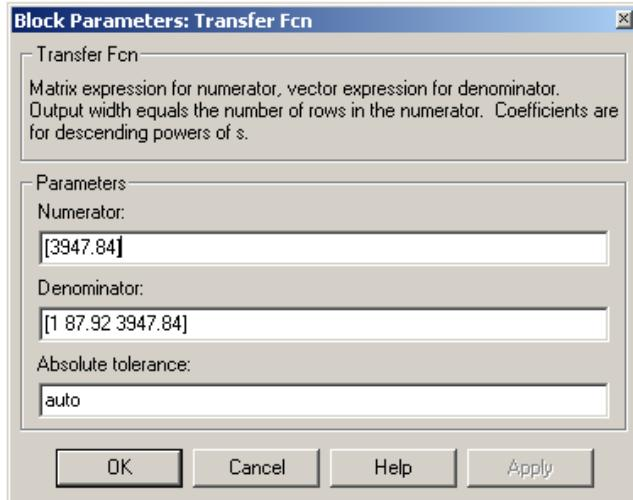

Figure 2.1: Parameters for Second Order System
1. Set the parameters of the **Transfer Fcn** block as shown in Fig. 2.1